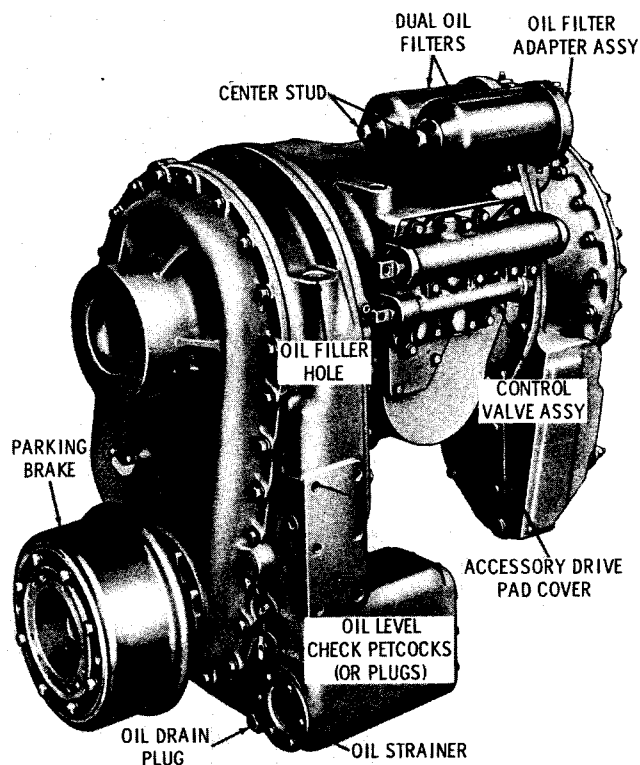
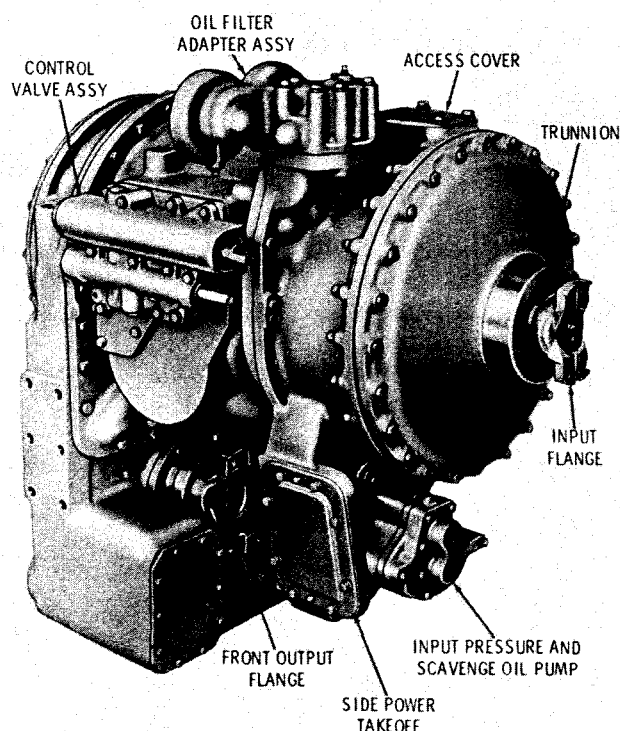

Fig. 1-2. Model CRT 5630 transmission, remote mount—right-rear view
Fig. 1-3. Model CRT 5631 transmission, remote mount—right-front view
(1) Two power takeoff mounting pads are provided on the converter housing of some transmissions. All have the pad (fig. 1-2) at the rear of the converter housing (in line with the input pressure and scavenge pump). Some assemblies include an 8-bolt pad at the lower-right side of the converter housing (fig. 1-3). Both power takeoff drives rotate at engine speed.
(2) Some assemblies include a converter-driven power takeoff mounted at the